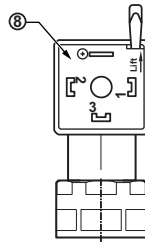

Figure 6.
- Open the core ⑧ of the cable socket ② with a screwdriver or similar tool. See Figure 6.
- Press the core ⑧ into the cable socket ② until it locks into place. See Figure 6